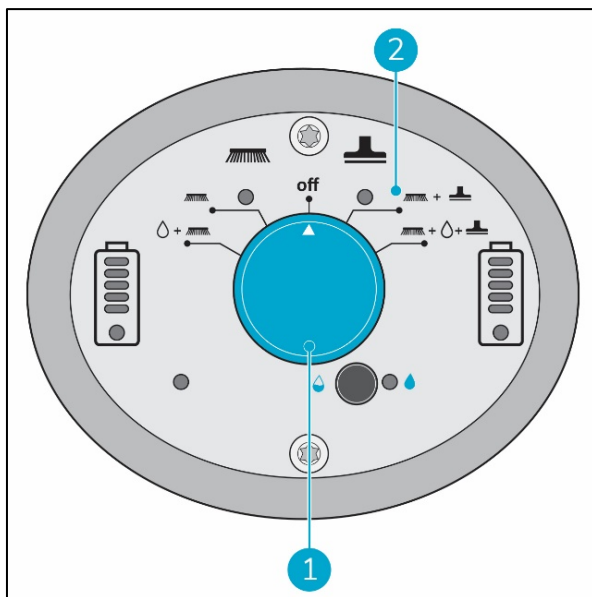

Figure 21
1. Use the i-mop XXL basic main switch (Figure 21, pos 1) and choose MODE 3 Brush + Dry vacuum (Figure 21, pos 2).